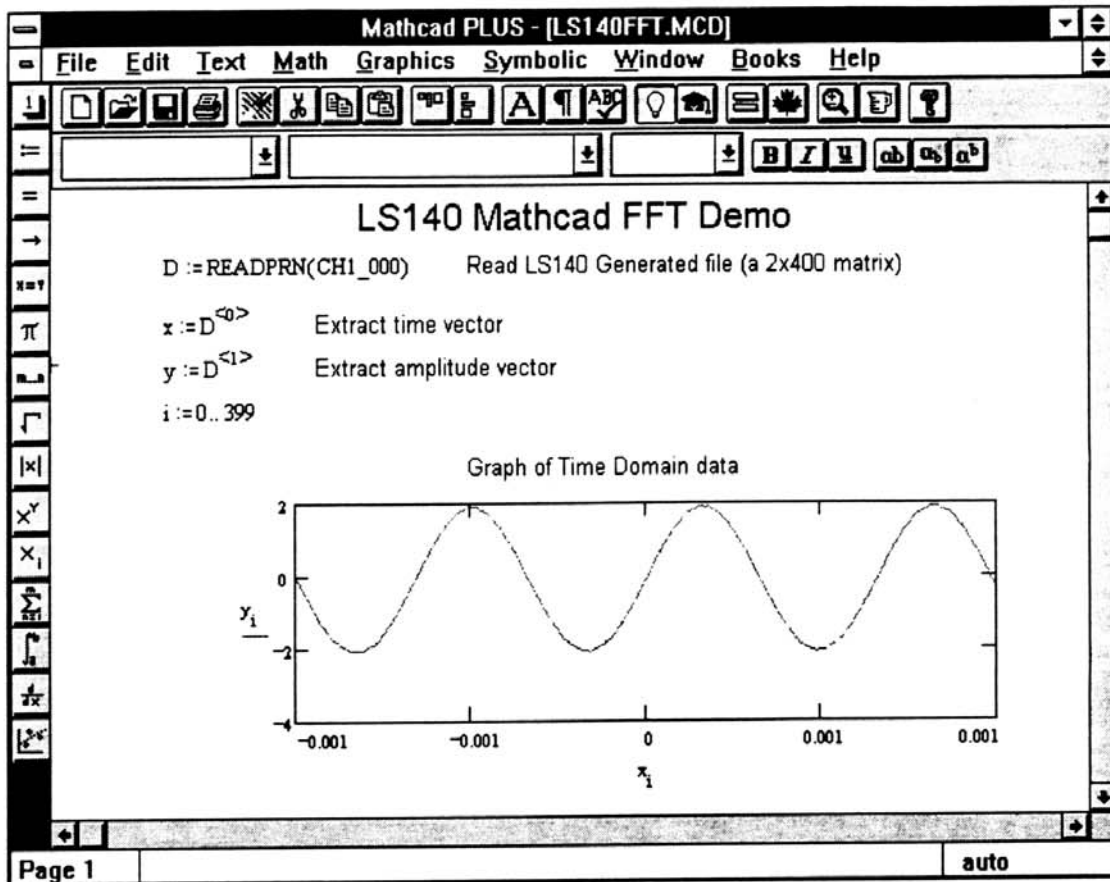

Figure 44
4. Use the READPRN(LS_DATA) command in MathCad to read the data from the file into the matrix LS_DATA, as shown in the figure 44.